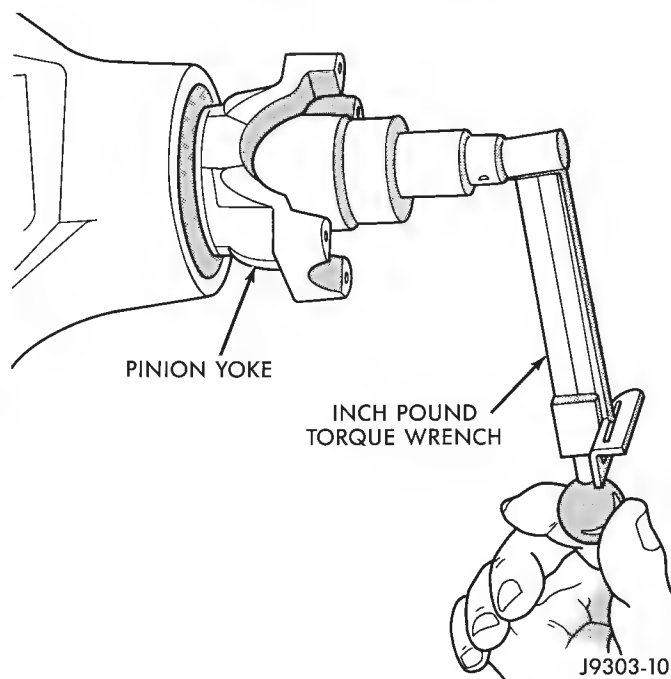

Fig. 54 Check Pinion Gear Torque
(11) Check bearing rotating torque with an inch pound torque wrench (Fig. 54). If torque to rotate is within specification, remove old nut and install new nut. The torque necessary to rotate the pinion gear should be;
(12) If rotating torque is high, add shims to decrease torque. If rotating torque is low, remove shims to increase torque.